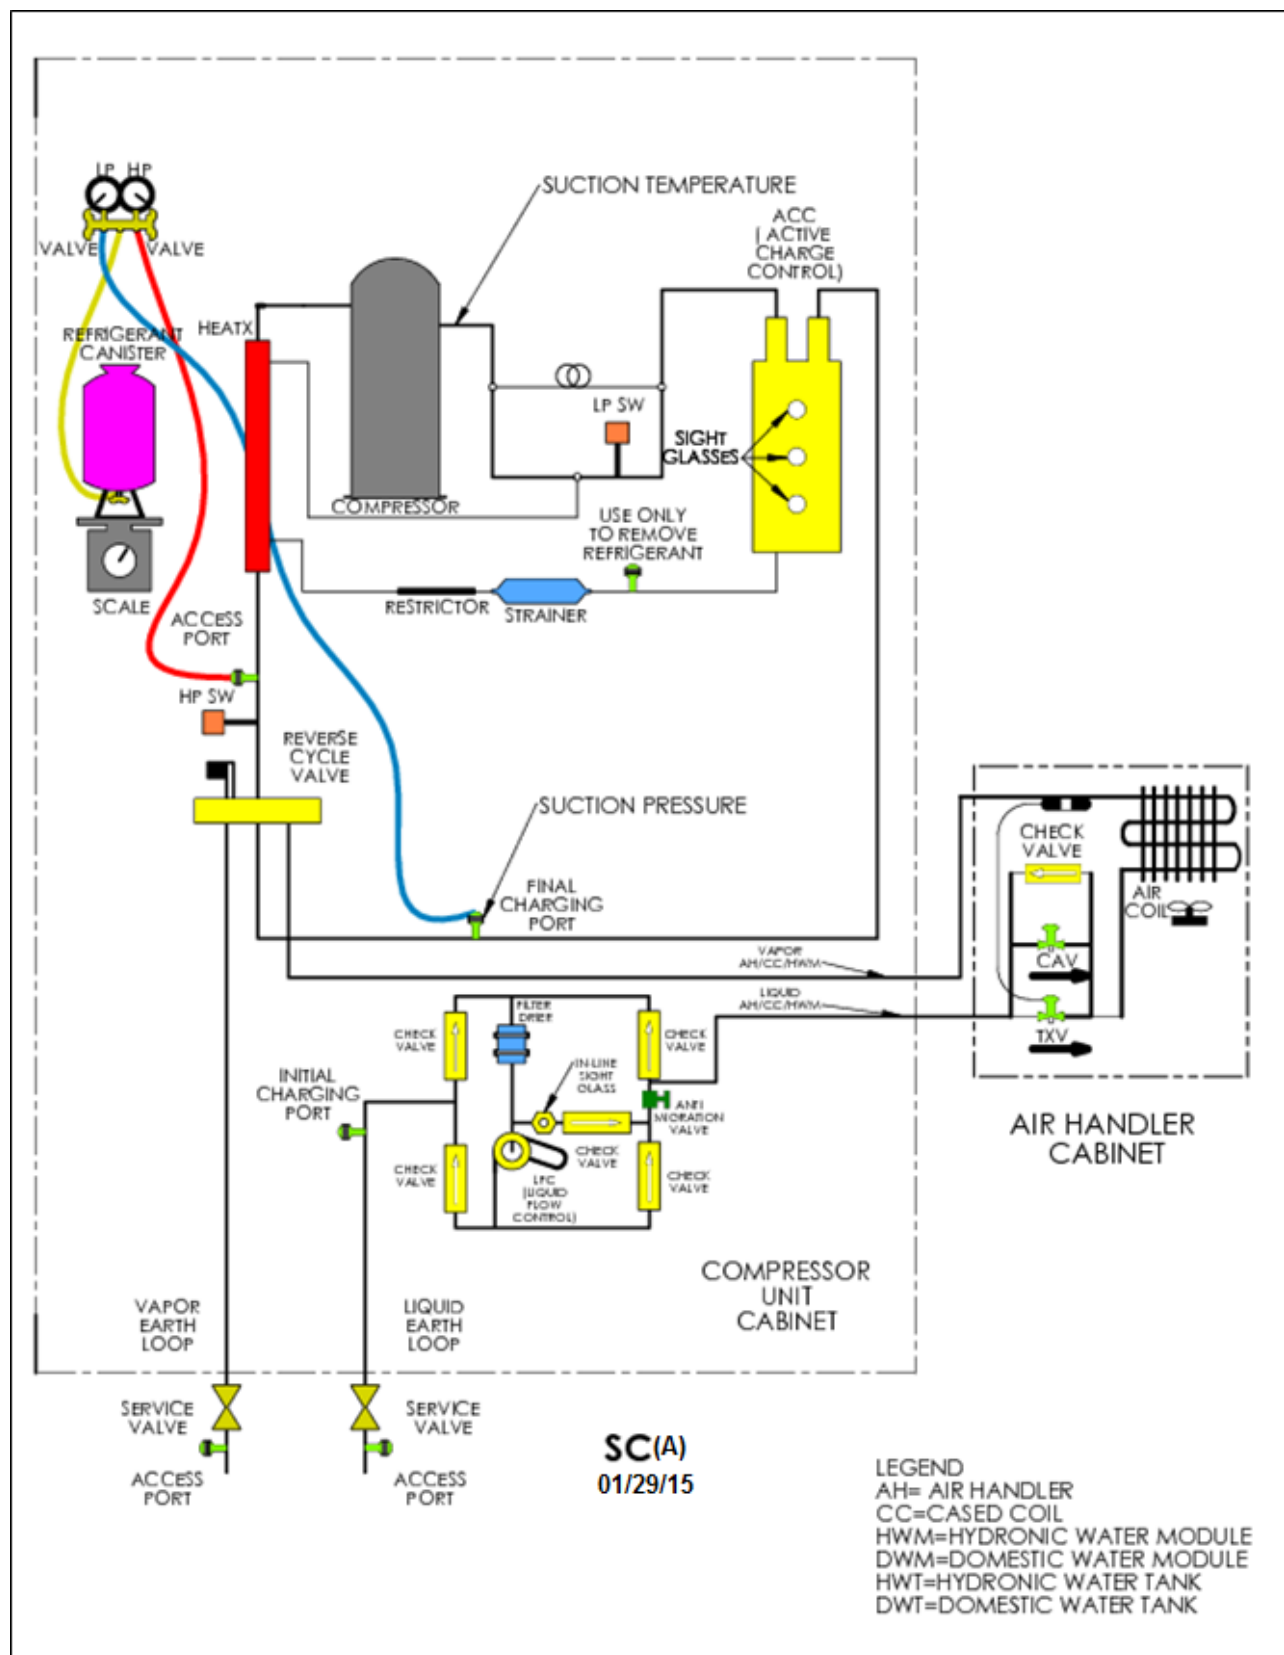
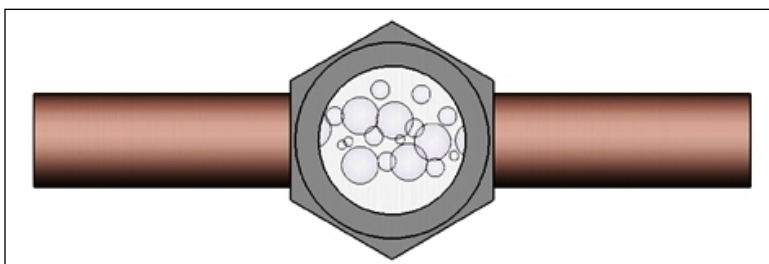
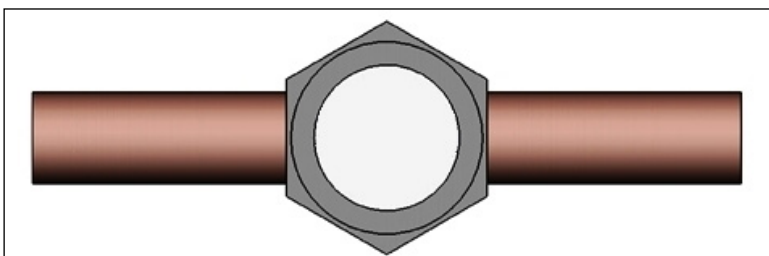
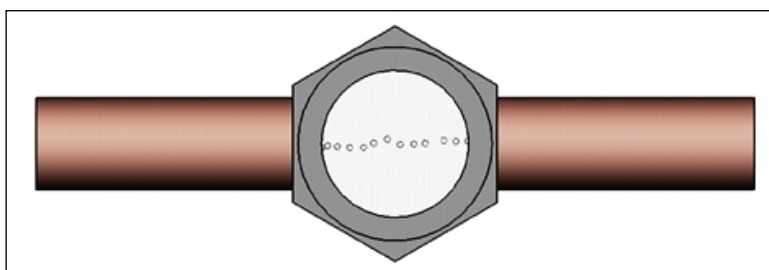

Figure 32. Suction Pressure and Temperature Measurements (SC(A) System Shown)
Figure 33. Many Bubbles-Inline Sight Glass
Figure 34. Clear-Inline Sight Glass
Figure 35. Trickle of Bubbles-Inline Sight Glass
5. **Monitor the suction pressure**, as shown in Figure 32. If suction pressure is not yet up to 120 psig, the INLINE sight glass (not the ACC sight glass) will show refrigerant flow with many bubbles, as illustrated in Figure 33. This indicates that the Cooling Assist Valve (CAV) has not yet closed. Monitor the suction pressure rising. As the ground warms, the suction pressure will rise and the sight glass will show fewer bubbles.
6. **When suction pressure reaches 120 psig**, observe the **INLINE** sight glass. If it is either clear as shown in Figure 34, or has a trickle of bubbles as shown in Figure 35, no additional refrigerant charge is required. Go to step 10.
7. **When suction pressure is 120 psig**, there are still many bubbles in the **INLINE sight glass**, as shown in Figure 33, refrigerant must be added to the system through the final charging port.
8. **Observe the refrigerant flow in the INLINE sight glass.** If the sight glass has cleared, as shown in Figure 34, or there is a trickle of bubbles as shown in Figure 35, the system is fully charged.
9. **If there are many bubbles in the INLINE sight glass**, as shown in Figure 33, additional refrigerant is required. Repeat step 7 until the INLINE sight glass clears or has a trickle of bubbles as shown in Figure 34 or 35, respectively, but **DO NOT ADD MORE THAN THE FOLLOWING AMOUNTS OF REFRIGERANT TO THE SYSTEM DURING THIS PROCESS**:
11. The TXV is to be adjusted to provide 10°F to 15°F superheat while running in cooling mode. The first step is to utilize the final charging port and LP gage in Figure 32 to measure suction pressure. Next, apply a thermocouple at the compressor suction port as shown in Figure 32 by attaching the thermocouple lead with electrical tape, and wrapping with ½" thick insulation.